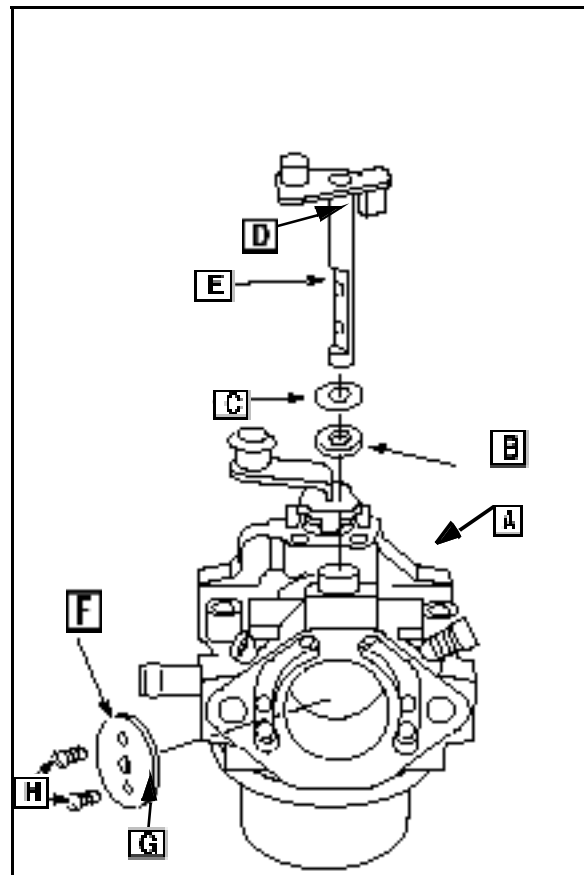

Fig. 59
1. Install throttle shaft seal (B) Fig. 59) to carburetor body (A). Install seal with grooved side out, Fig. 59.
2. Place throttle shaft retainer (C) on throttle shaft (D). Install throttle shaft to carburetor body.
3. Rotate throttle shaft until the flat (E) on the throttle shaft (D) is facing out.
4. Lay the throttle plate (F) on the shaft with the stamped numbers (G) to the left. Install two screws (H) Fig. 59).